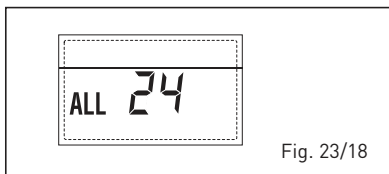

Fig. 23/18
- SOLAR PROBE ERROR STORAGE TANK (S2) "ALL 25" (fig. 23/19)